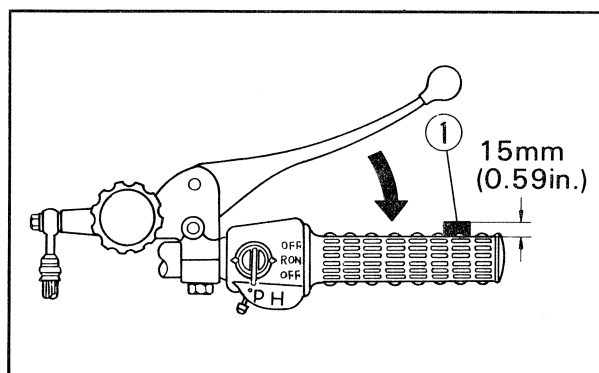

Fig. 3-30B (1) Rubber
4. As shown at right (Fig. 3-30B), attach a rubber of about 15 mm thick to the end of the handle grip to decrease the stroke as measured at the tip of the handle lever.